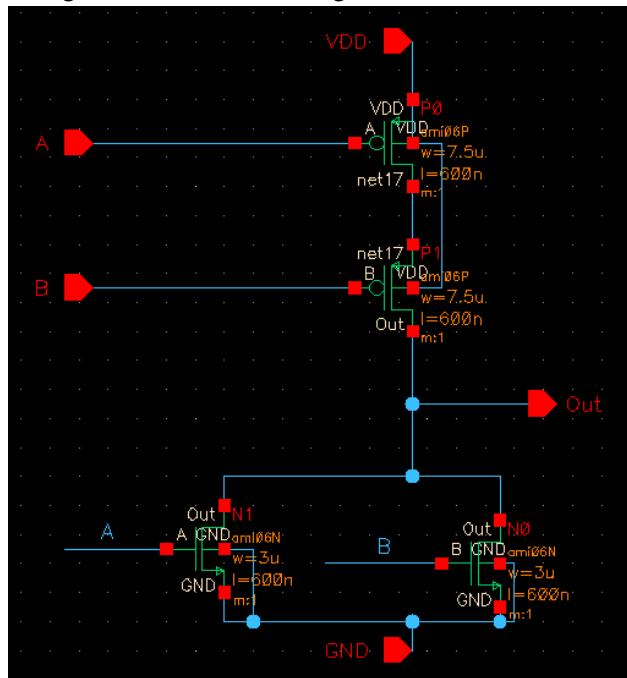

Figure 2. Schematic of a “NOR” gate
1. Create a new schematic cell view and name it “NOR”, you can use the instruction in lab 2. Draw the schematic of a “NOR” gate as it is shown in figure 2.